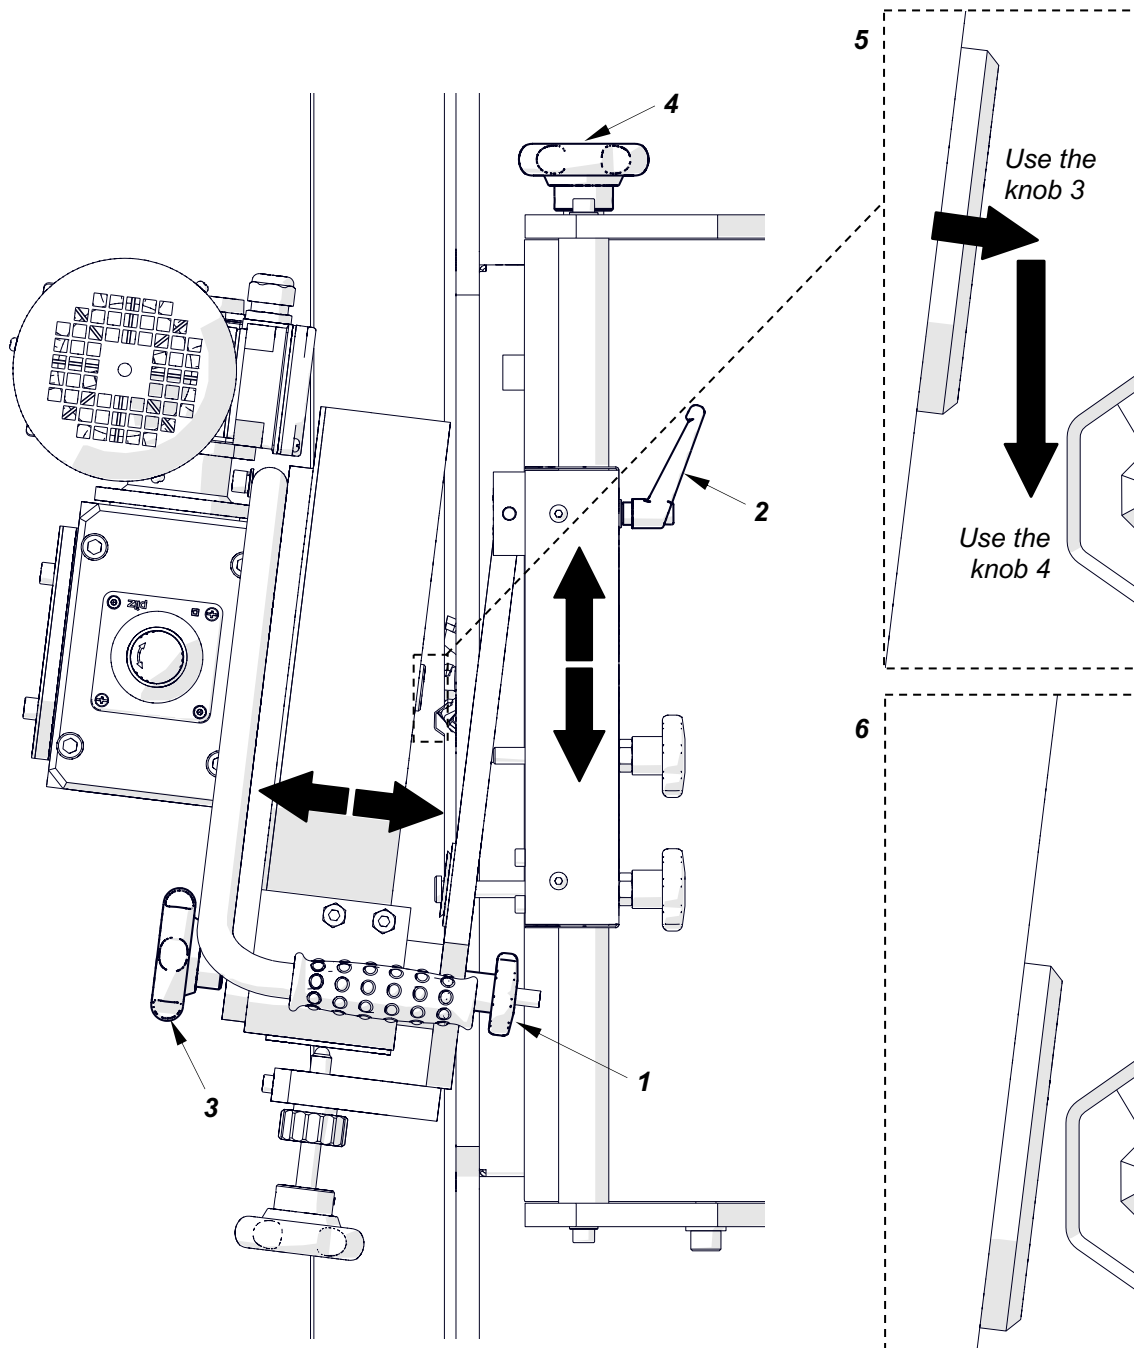

Fig. 11. Adjusting the feed wheel
Loosen the knob (1, Fig. 11) and lever (2). Then, use the knobs (3) and (4) to move the feed unit so that (5) the wheel comes as close to the milling spot as possible (6). Next, lock the knob (1) and lever (2) in this position. Do not let the feed wheel or its cover come in contact with the milling head or vertical base.